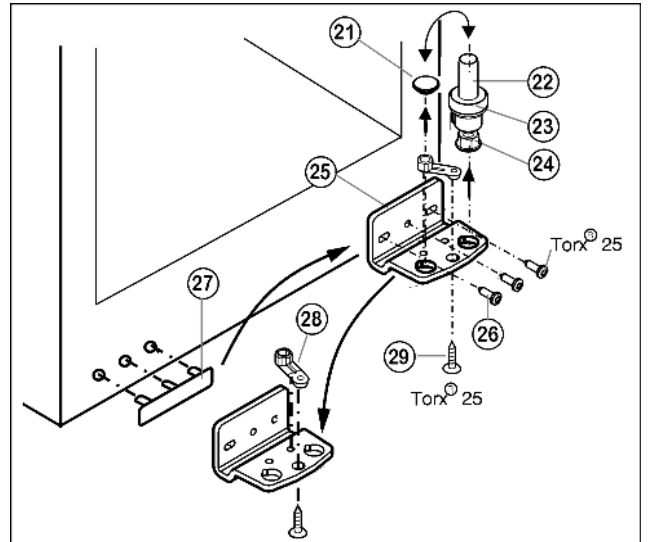

Fig. 5
- ▶ Lift out the bearing pin Fig. 5 (22) together with washer Fig. 5 (23) and adjustable-height foot Fig. 5 (24).
- ▶ Lift off the stopper Fig. 5 (21).
- ▶ Unscrew Fig. 5 (26) the turn hinge Fig. 5 (25).
- ▶ Unscrew Fig. 5 (29) the bearing element Fig. 5 (28), transfer it to the opposite location hole of the turn hinge and screw it firmly into place.
- ▶ Carefully lift off the cover on the handle side Fig. 5 (27) and transfer it to the opposite side.
- ▶ Screw the turn hinge Fig. 5 (25) firmly into place on the new hinge side, possibly using a cordless screwdriver (**with 4 Nm**).
- ▶ Re-insert the stopper Fig. 5 (21) into the other hole.
- ▶ Re-insert the bearing pin Fig. 5 (22) together with the washer and adjustable-height foot. In so doing, pay attention that the locating lug points backwards
- ▶ Place the door from above onto the lower bearing pin Fig. 5 (22).
- ▶ Align the door to the appliance housing by way of the two oblong holes in the bottom turn hinge Fig. 5 (25). To do so, unscrew the middle screw.